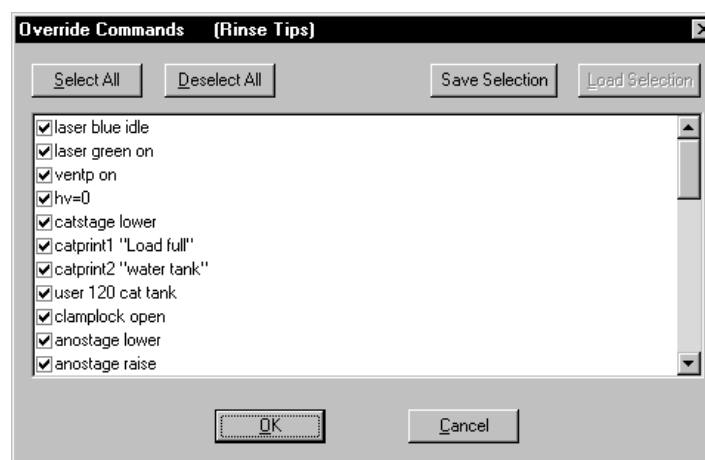

Figure 14-3. The Override Commands window.
3. Type the appropriate password and click **OK**. The Override Commands window appears (figure 14-3).